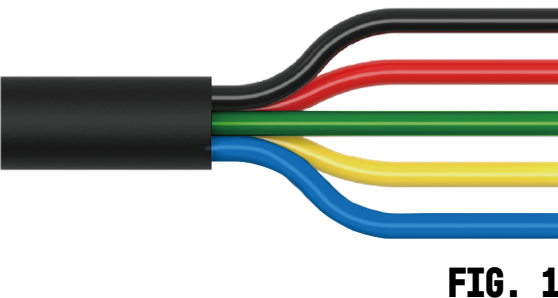

FIG. 1
The bracket installation location can refer to Figure 1.
3. Connect the **BLUE** or **YELLOW** or **GREEN** wire to the desired upfitter switch relay. See FIG. 1 for individual ACC wire function. When the upfitter switch is activated, that light and pattern will trigger.
1. See FIG. 1 for individual ACC wire function.